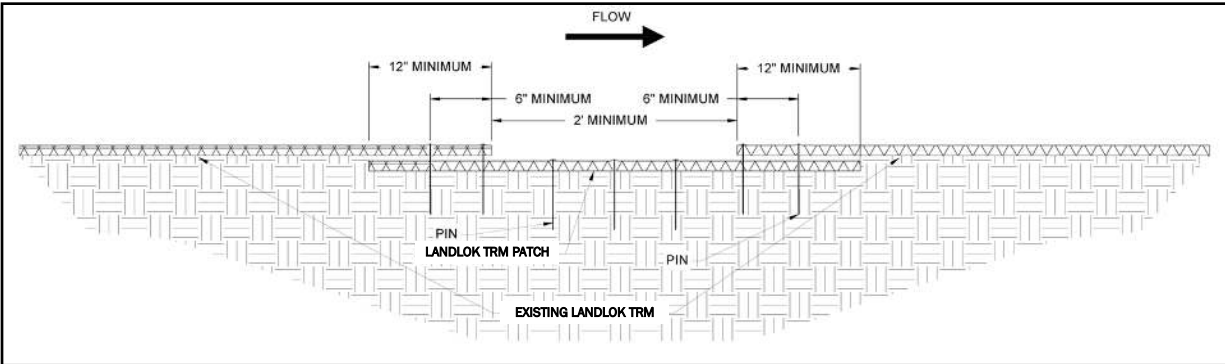
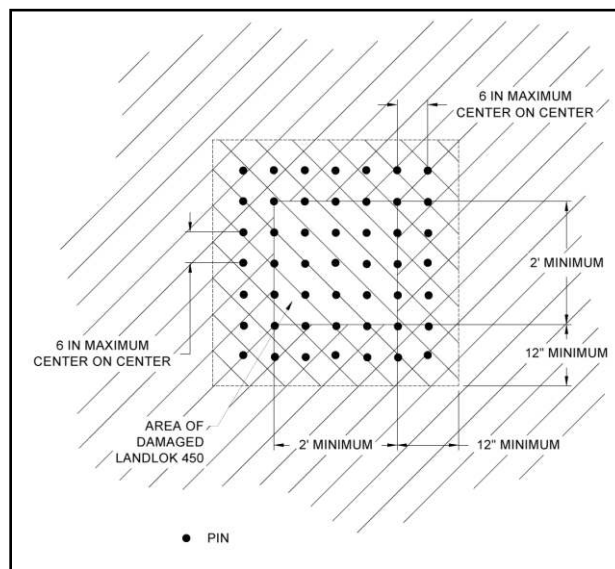

Figure 22: LANDLOK Patch Cross Section
Figure 23: LANDLOK Patch Plan View
- A. *Acceptable (A)* - The rated area is in satisfactory, acceptable condition, and will function as designed and intended during the rain event. LANDLOK has no exposed edges, is installed tightly by maintaining direct contact to the channel surface with no rilling beneath, and has over 90% vegetation cover. There is no noticeable damage present.
- B. *Minimally Acceptable (M)* - The rated area has a minor deficiency that needs to be corrected. The minor deficiency will not seriously impair the functioning of the area during the next rain event; however, the overall reliability of the project will be lowered because of the minor deficiency. LANDLOK has 75% vegetation cover with un-vegetated patches as large as one square yard. Edges of LANDLOK are exposed with noticeable damage. Minimal erosion has occurred underneath LANDLOK.
- C. *Unacceptable (U)* - The rated area is unsatisfactory. The deficiency is so serious that the area will not adequately function in the next rain event. LANDLOK has been physically torn, ripped, or lifted from the channel surface. Less than 75% vegetation cover is present with un-vegetated patches being greater than 1 square yard, and there is evidence that erosion is occurring beneath LANDLOK.
3. To repair LANDLOK, cut out and remove damaged areas in a square configuration a minimum size of 2 ft by 2 ft. Remove all vegetation and debris atop of LANDLOK. Loosen the top 1 to 2 in of soil in the patch area then seed. The subgrade of area to be patched shall be prepared to be smooth and uniform and transition smoothly into the in-situ area. Cut a square LANDLOK patch a minimum of 12 in greater than the damaged area for all four sides of the patch. Overlap the patch area in all directions a minimum of 12 in. The patch overlaps shall be tucked under the existing damaged LANDLOK material (Figure 22 and Figure 23).